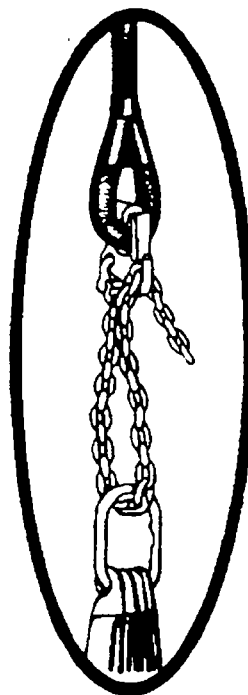

Figure 1-15. Adding a Sling Leg
Step 9 - Normally the net apex fitting is directly attached to the cargo hook. If the load is a large one, the lifting legs may not be long enough to allow the hookup person to perform a safe hookup to the aircraft. If you cannot lift the apex fitting at least 6 feet above the top of the load, add a leg or legs from a sling set (Figure 1-15). Route the chain end of the sling leg through the net apex fitting and insert link 3 in the grabhook. Remember, the capacity of the sling leg must be greater than the weight of the load.